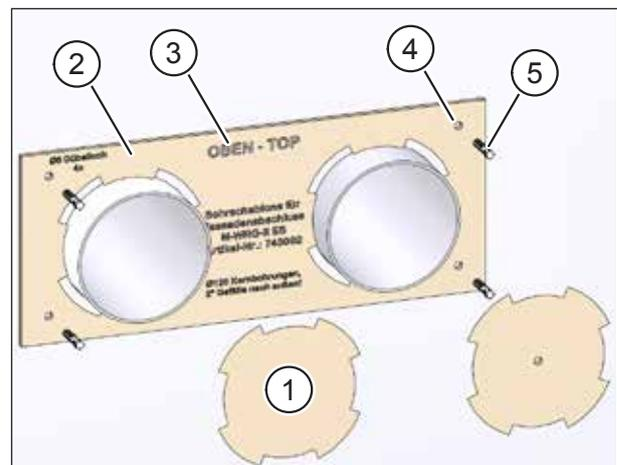

Fig. 8: Drilling the holes
- ▶ Press the pre-punched cut-outs (item 1 in Fig. 8) for the ventilation pipes out of the drilling template (item 2 in Fig. 8).
- Note the “OBEN (TOP)” (item 3 in Fig. 8) printed on the drilling template.
- ▶ Use the 6 mm masonry bit to drill four holes, roughly 40 mm deep, in the external wall at the points indicated on the drilling template (item 4 in Fig. 8).
- ▶ Insert the four dowels provided (item 5 in Fig. 8) into the holes.